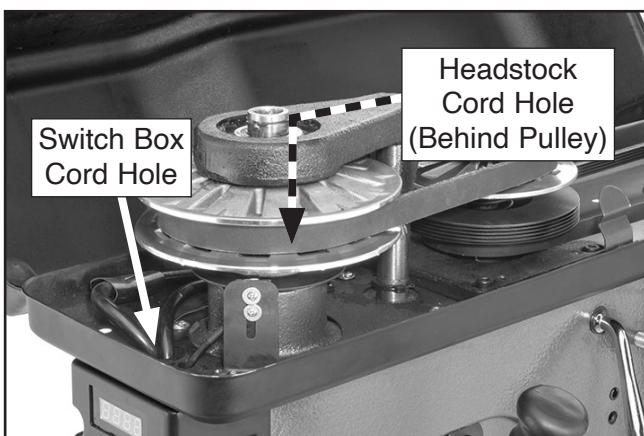

Figure 82. LED and laser module cords fed into headstock and switch box.
- Open belt cover and identify which cord is connected to LED by lightly tugging cords fed into headstock (see **Figure 82**).
- Follow cord to where it is fed into switch box (see **Figure 82**).